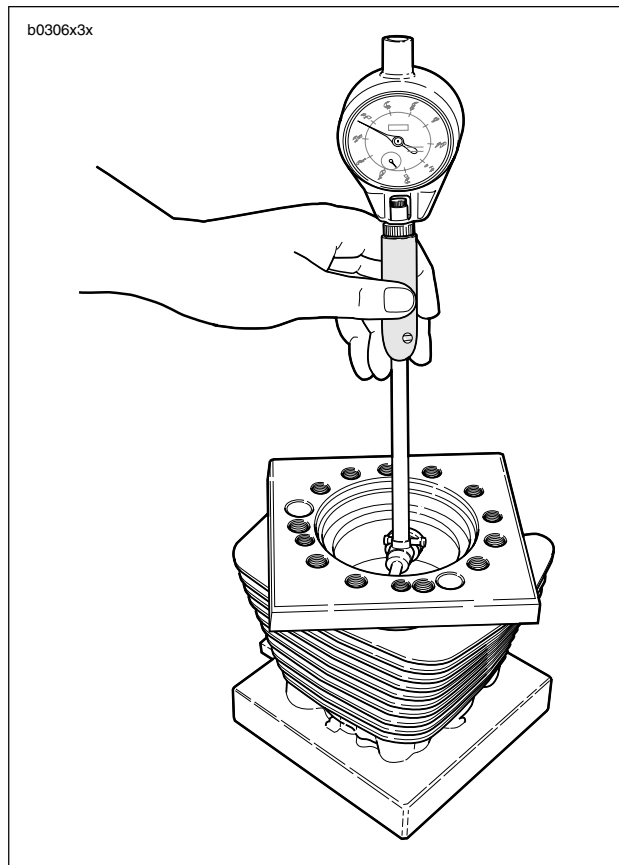

Figure 3-74. Measuring Cylinder Bore Using Torque Plates (Part No. HD-33446A)
2. See Figure 3-74. Install a head gasket, base gasket and o-rings, and CYLINDER TORQUEPLATES (Part No. HD-33446A) and XL EVOLUTION TORQUE PLATE BOLTS (Part No. HD-33446-86). Tighten the bolts using the same method used when installing the cylinder head screws. See 3.5 CYLINDER HEAD.
3. See Figure 3-74. Take cylinder bore measurement in ring path, starting about 0.50 in. (12.7 mm) from top of cylinder, measuring from front to rear and then side to side. Record readings.